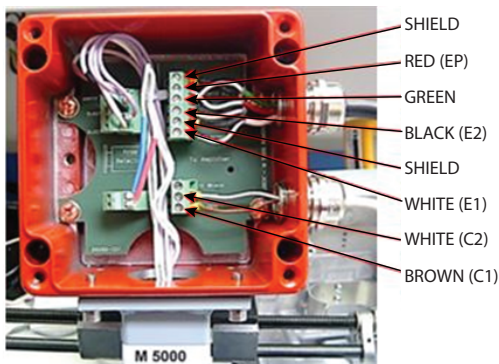

Figure 5: M5000 connector cable wires
- Attach the white cable wires (the end with the shorter exposed wires) to the 3-pin connector on the junction box circuit board (see Figure 5 for wiring).
- Attach the black cable wires (the end with the shorter exposed wires) to the 6-pin connector on the junction box circuit board (see Figure 5 for wiring).
- Plug the detector's electrode and coil terminal blocks into the junction box circuit board (see Figure 5) and tuck wires neatly inside. **DO NOT ROUTE THE WIRES UNDER THE JUNCTION BOX CIRCUIT BOARD!**